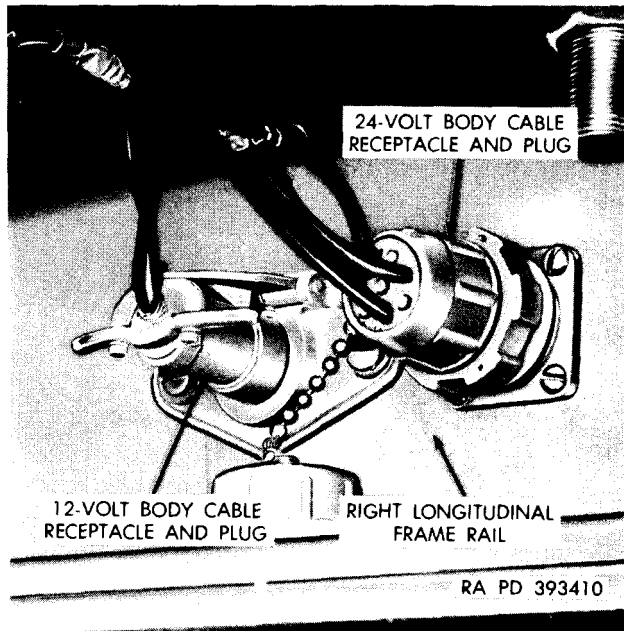

Figure 2-26. 12-volt and 24-volt body cable receptacles and plugs
c. Current is routed to van body wiring thru the 12-volt and 24-volt body receptacle located on the right longitudinal frame rail. (See figure 2-26.)